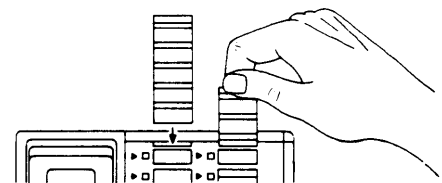

Figure 4
1. Grasp the silver tab above the touch-sensitive buttons, and pull the label out of the label slot (see Figure 4).